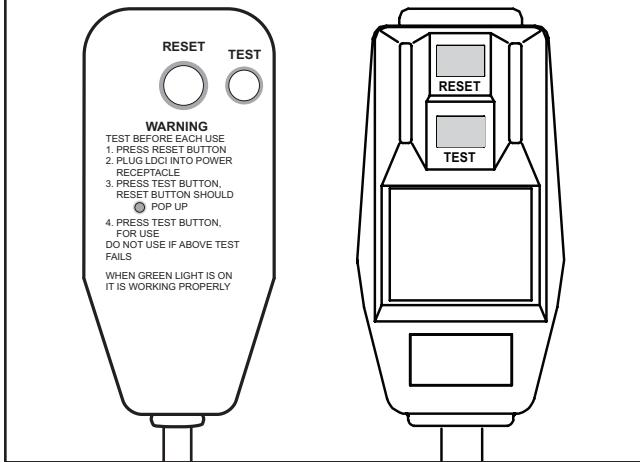

Figure 6
2. Press **RESET** (See Figure 6).